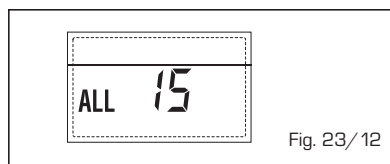

Fig. 23/12
- ANOMALÍA SONDA EXTERNA "⬆️⬆️ PARPADEANT" (fig. 23/13)